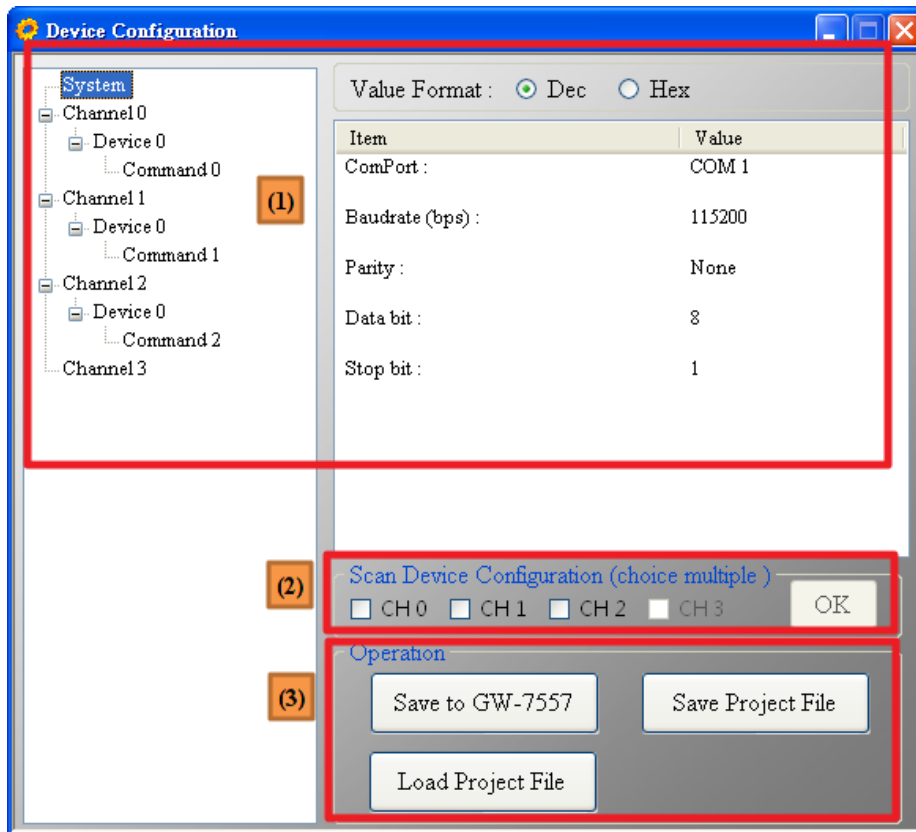

Figure 58 Device Configuration window
In this window, it will show the configuration of the GW-7557 module. The user can setup the configuration of the GW-7557 module here. This window has 3 parts, they are (1) The node information 、 (2) Scan Device Configuration 、 and (3) Operation buttons, as shown in Figure 58.
(1) The node information